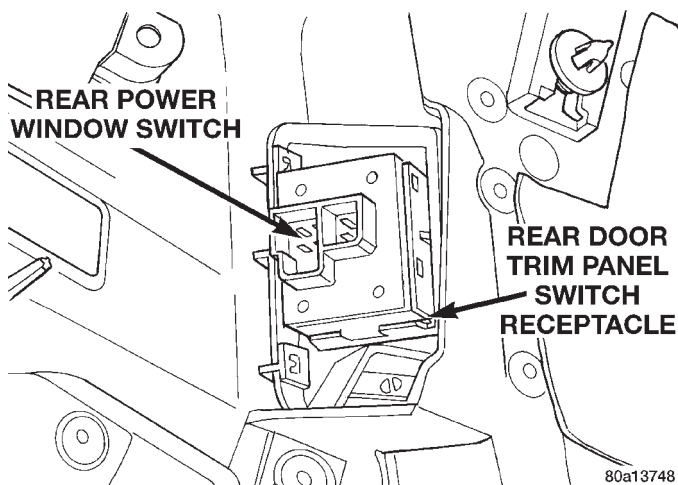

Fig. 5 Rear Door Power Window Switch Remove/Install
(6) Unplug the wiring connector from the door power window switch.
(7) Unsnap the switch from the receptacle in the trim panel (Fig. 5).